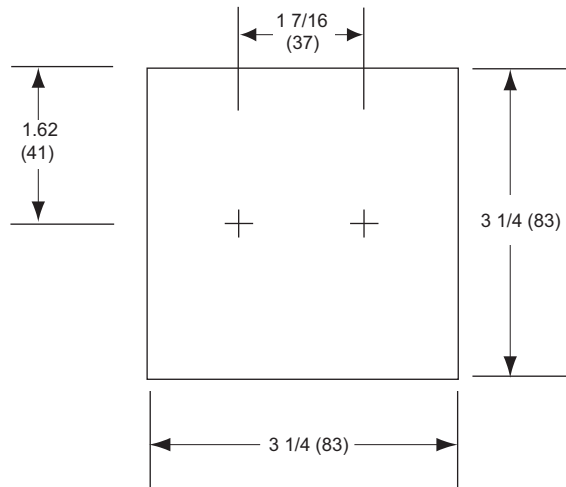

Figure-6 AM-705 Mounting Dimensions.
3. Use two mounting screws (customer supplied) and appropriate drill to drill and mount the rear cover (Figure-6).